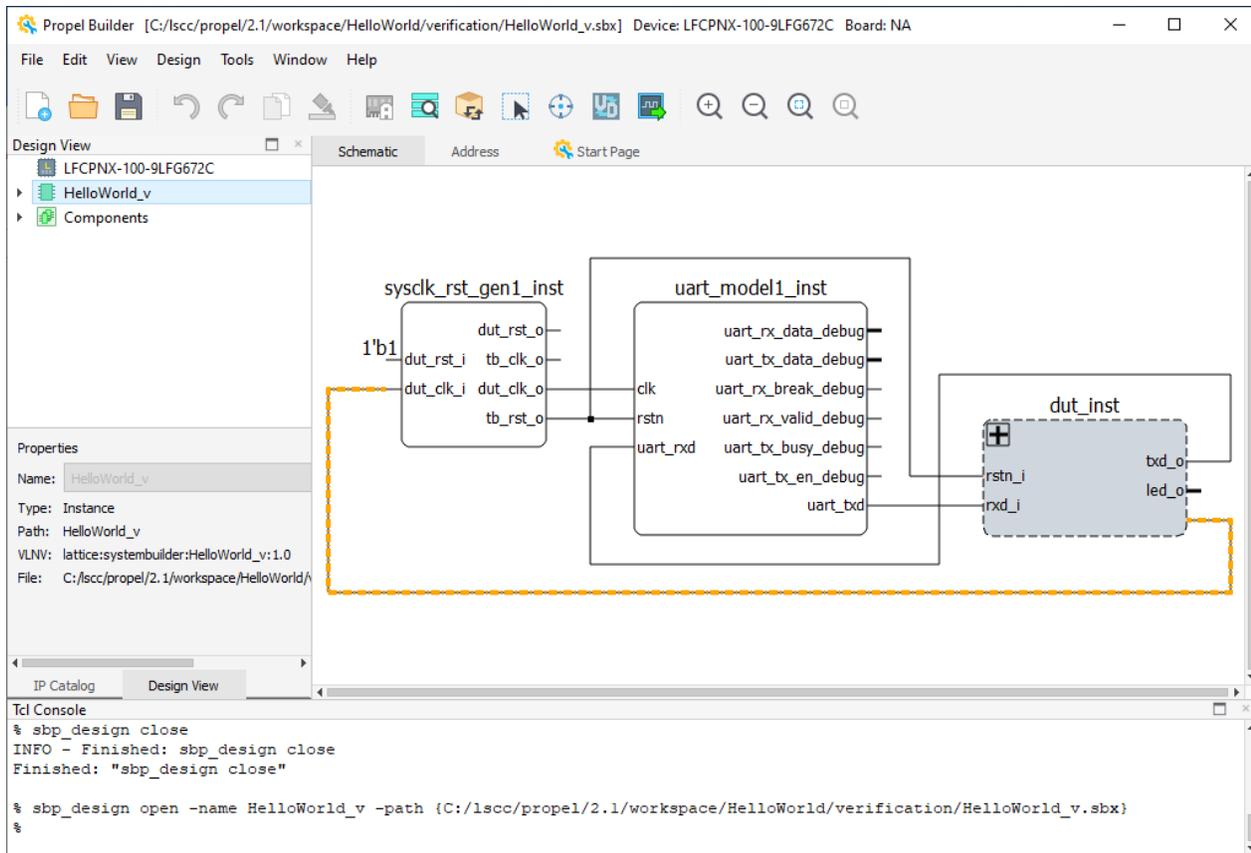

Figure 2.71. Switching to Project Verification
3. Click **Yes** in the Propel Builder dialog box. The Propel Builder GUI switches to verify the project (Figure 2.71).